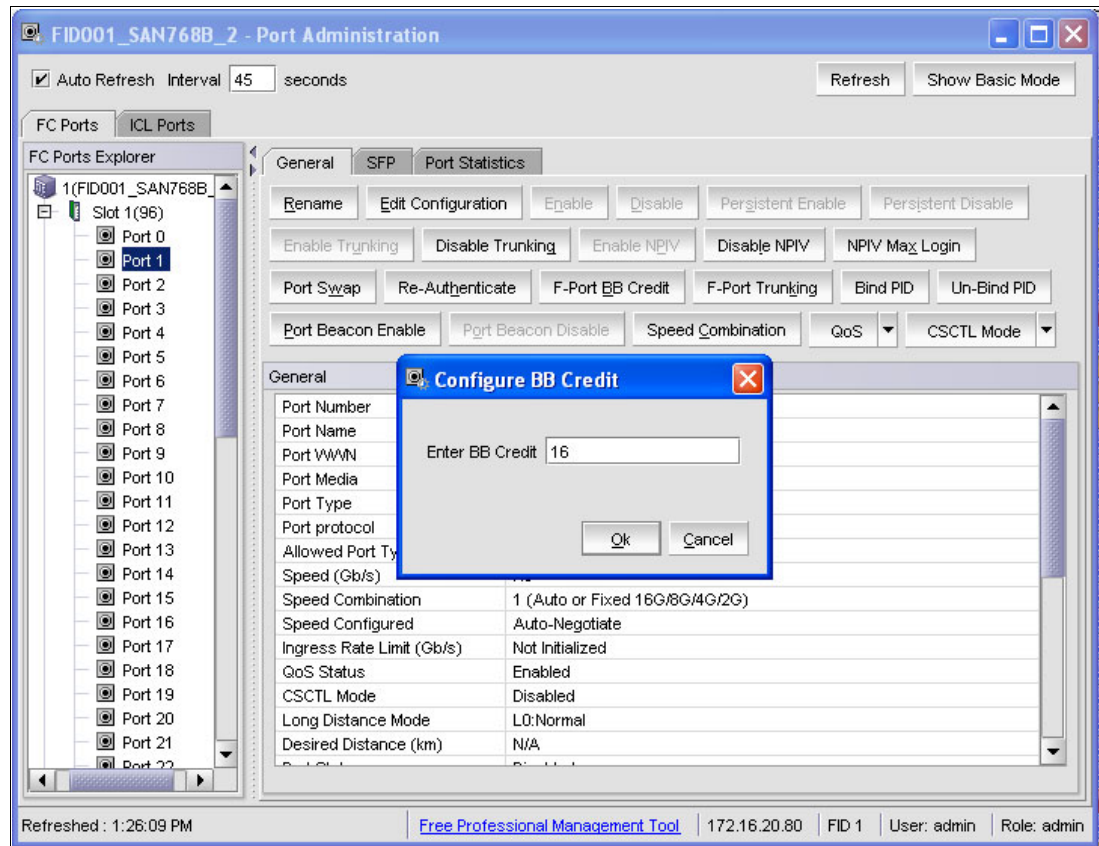

Figure 8-46 Buffer Credit
6. Click **F-port BB Credit**, and enter the required value of Buffer Credits, as shown in Figure 8-46.